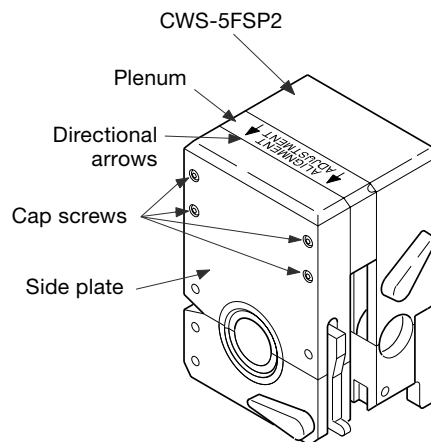

Figure 19 Loosening the Side Plate
1. Turn the fixture block over and locate the directional arrows on the plenum. The arrows point to the appropriate side plate. See Figure 19.
2. Using the provided 3/32 in. hex wrench, unscrew the four cap screws in the appropriate side plate just enough to loosen it from the plenum. See Figure 19 to locate the appropriate side plate.